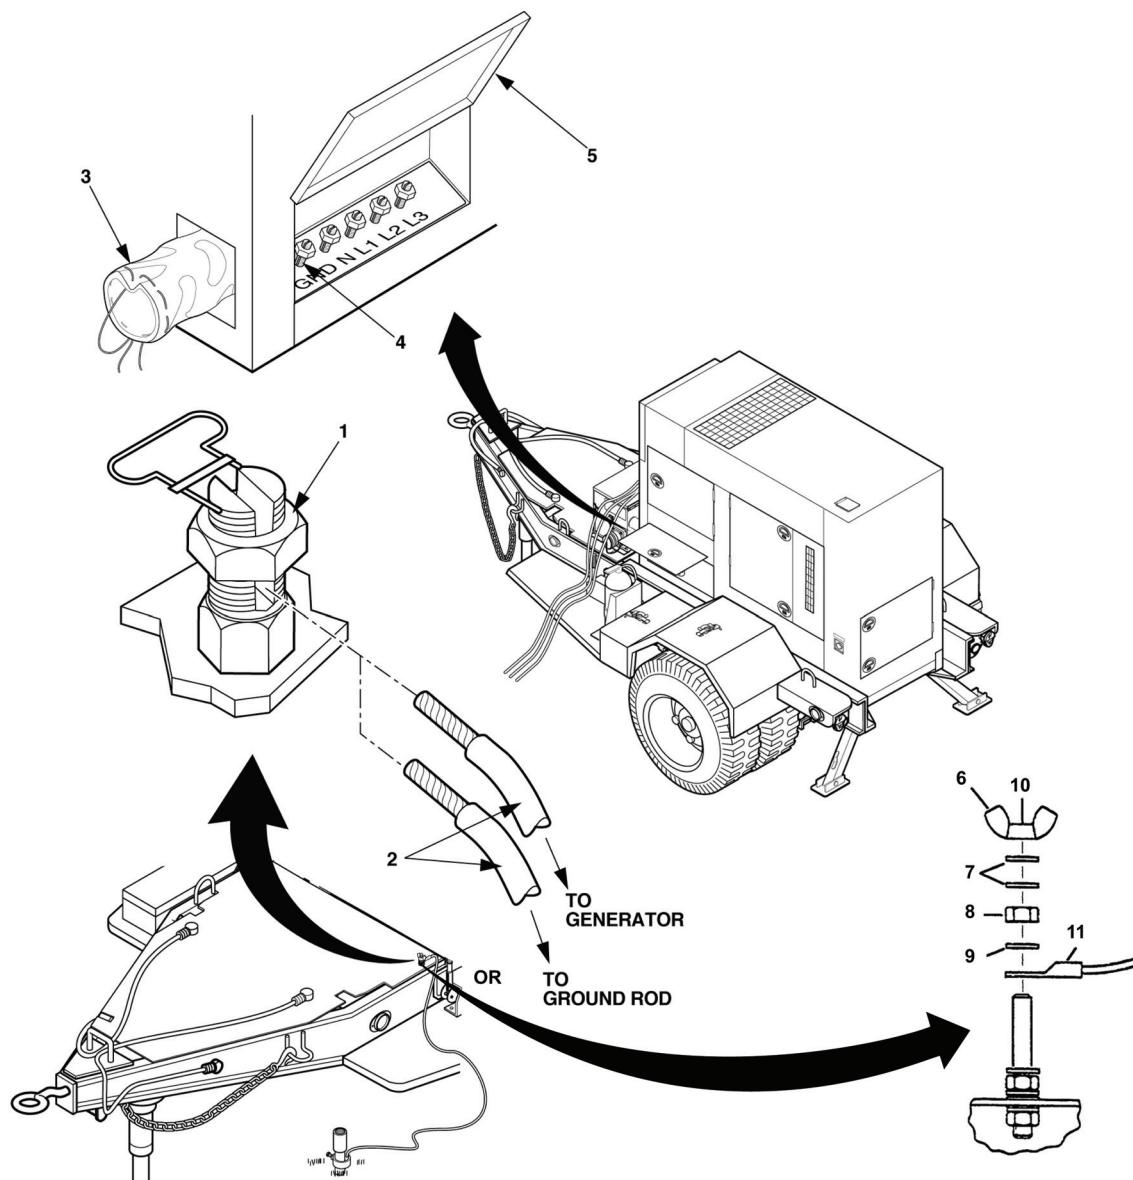

Figure 4-2. Installation Instructions
Refer to figure 4-2 and assemble the AN/MJQ-39, AN/MJQ-48 or AN/MJQ-48A power plants as follows.
- d. Open the access door panel (5, figure 4-2) to Unit B generator load terminals, then connect power cable leads as follows:
- (1) Connect lead marked L3 to generator set load terminal L3.
- (2) Connect lead marked L2 to generator set load terminal L2.
- (3) Connect lead marked L1 to generator set load terminal L1.
- (4) Connect lead marked N to generator set load terminal N.
- (5) Connect lead marked GND to generator set GND terminal.
- e. For units A and B remove 60 inch ground wire (2) from accessory box and connect as follows:
Refer to figure 4-2 and assemble the PU-800, PU-801, PU-801A or PU-802 as follows:
- a. Remove 60 inch ground wire (2, figure 4-2) from accessory box. If necessary, remove one inch of insulation from both ends of ground wire (2) and connect as follows.
- (1) If a trailer having the load terminal is being used, perform steps (5) through (8). Otherwise perform steps (2), (3), (4), (7), and (8).
- (2) Remove and retain wing nut (6), washers (7 and 9), and nut (8) from trailer ground stud (10) and install ground terminal (11) to ground stud (10).
- (3) Install washers (7 and 9) and nut (8) on ground stud (10).
- (4) Install wing nut (6) on ground stud (10) and tighten.
- (5) Loosen nut (1) on trailer ground terminal.